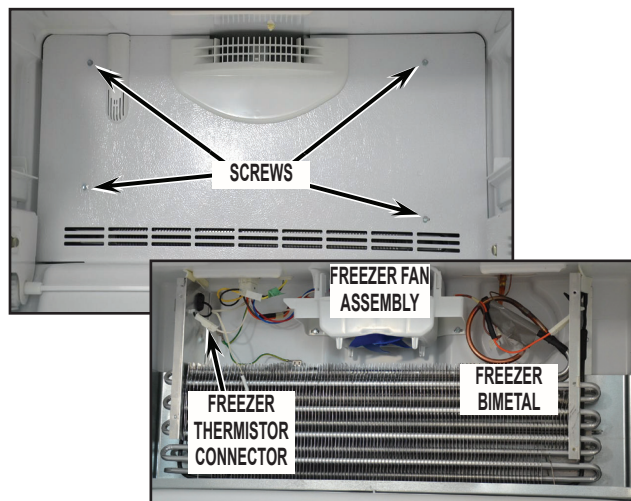

FIGURE 8
3. Remove the 4, 1/4" screws to remove FC evaporator cover to access FC evaporator and evaporator components. See *Figure 8*.